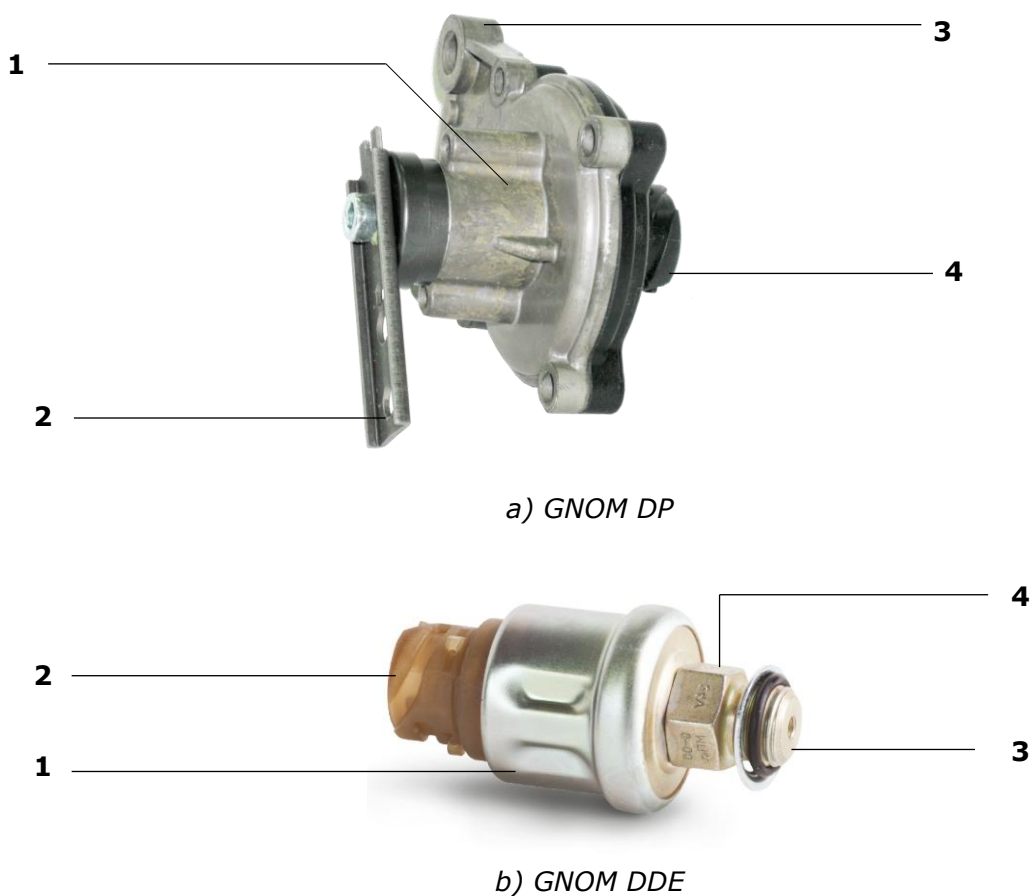

Figure 9 — Components of sensors
**1) GNOM DP / GNOM DP CAN position sensor** consists of the measuring unit **(1)** with the angle shift magnetoresistive transducer inside, pivot lever **2**, mounting bracket **3**, power supply connector **4** (see figure 9 a).
**2) GNOM DDE pressure sensor** consists of the casing **(1)** with the tensoresistive pressure transducer located inside, cable connector **2**, inlet thread fitting **3** with mounting nut **4** (see figure 9 b).